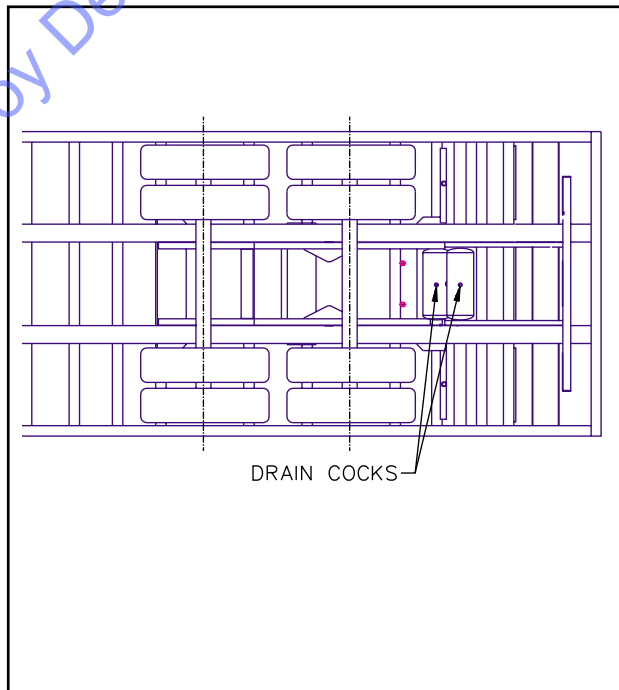

Figure 4-9 Drain Cock Locations
- d. Drain air reservoir daily. A drain cock on the bottom of each air reservoir vents the tank to drain collected water and oil. If held open, air pressure in the tanks is relieved, causing the emergency or parking brakes to be applied (**See Figure 4-9**).